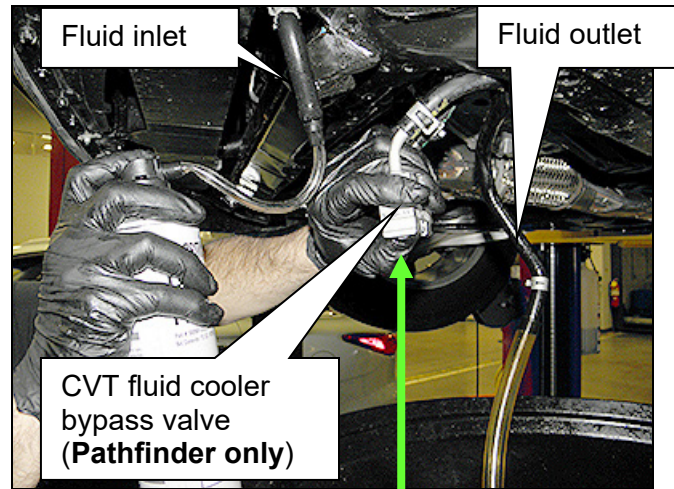

Figure 3
8. Insert the “extension adapter hose”, from a can of Transmission Cooler Cleaner (Nissan P/N 999MP-AM006P), into one or the other of the disconnected CVT fluid cooler hoses (Figure 3).
- For Pathfinder, block the CVT fluid cooler bypass valve fluid passage (Figure 3) with thumb.
- For Pathfinder block the CVT fluid cooler bypass valve fluid passage (Figure 3) with thumb.
14. Reverse the direction that the hoses are being flushed (Figure 3) and repeat steps 8 through 12 twice.